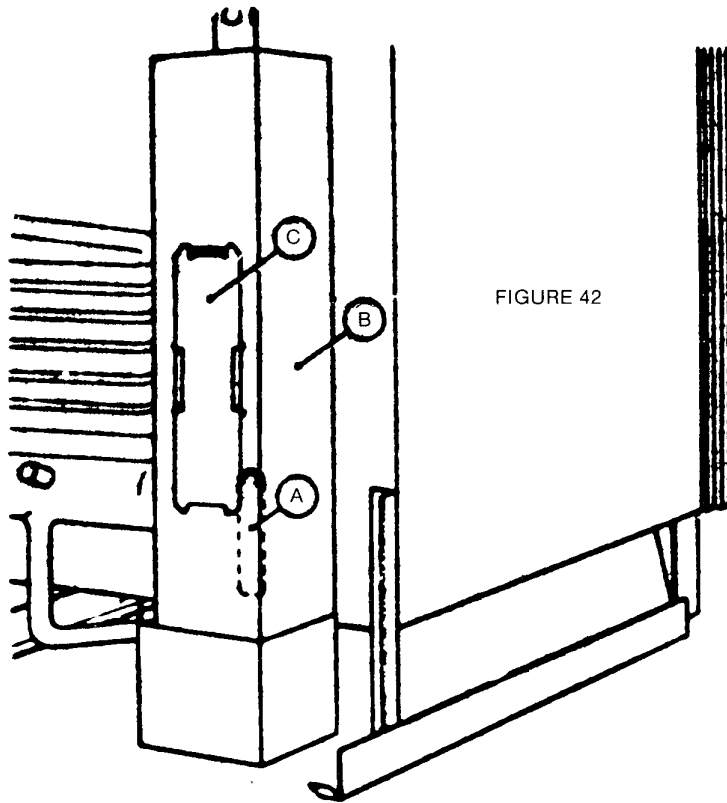

FIGURE 42
On the gas/electric operated refrigerators, heat is supplied by an electric heater (A) mounted on the cooling unit inside the insulated cover (B). See Fig. 42.